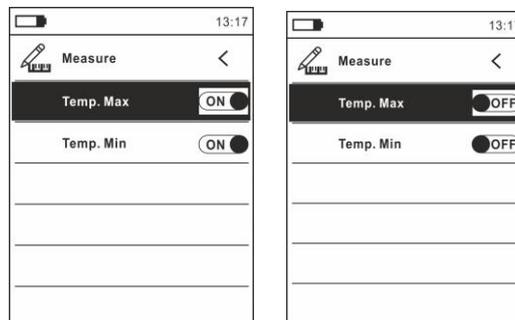

Fig. 13 Measure Menu
9. Select item “Measure” and press key ☰ or ► to enable activation/deactivation of the cursors associated with the “hottest” or “coldest” spots in the thermographic image (see Fig.13)